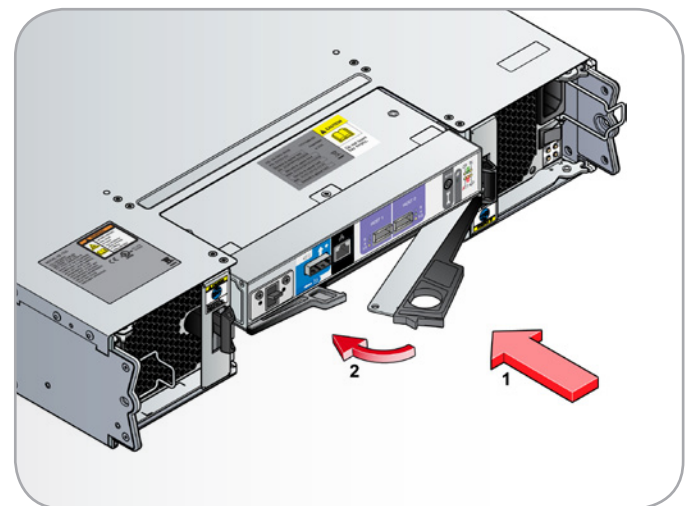

Fig. 76 - Inserting the RAID Controller Module
4. Secure the module by closing the latch. A click should be heard as the latch locks into position (*Fig. 76*).